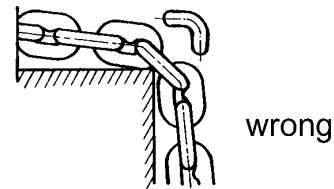

Figure 9
- Prevent the chain from dragging over sharp edges or corners. These will cause links to weaken, bend, or break, (Figure 9).